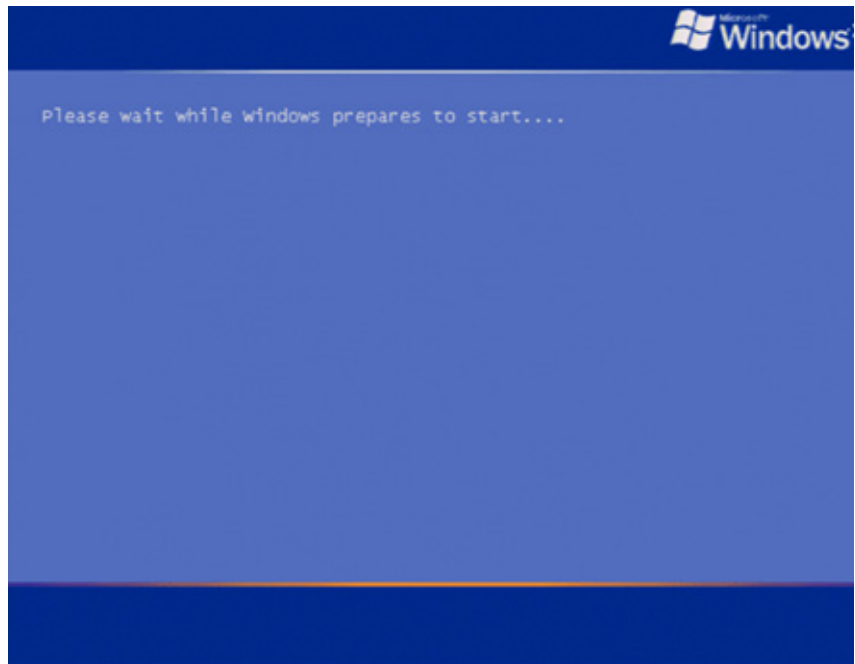

Figure 8 Windows XP Pro for Embedded Systems start up screen
Step 4. The windows start up screen as shown in Figure 8 appears.